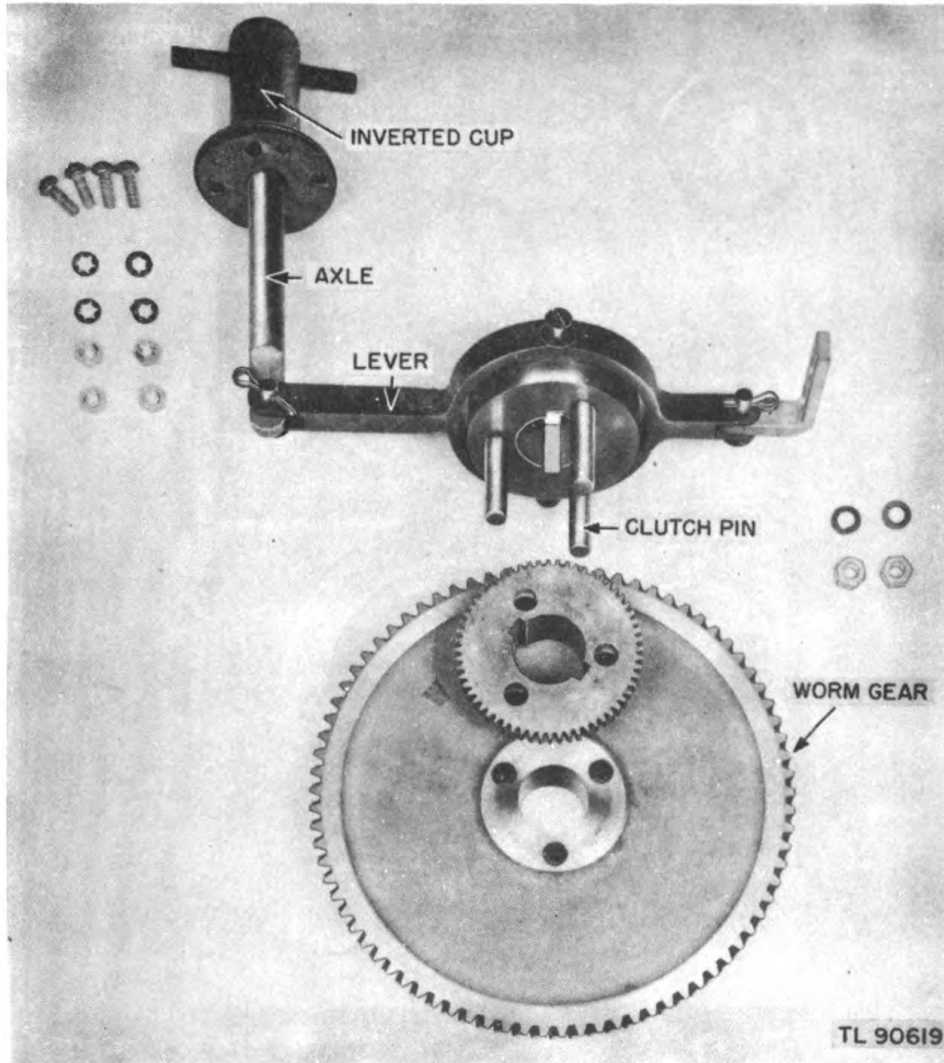

Figure 16. Clutch, exploded view.
16. CLUTCH. The floating clutch (fig. 16) is made up of a collar with three pins protruding downward into the special drive worm gear. The clutch is activated by a lever operated externally at the top of the antenna mount by means of an inverted cup sliding on a grooved axle. The clutch is placed in neutral when the cup is pulled upward. Twisting the cup locks the clutch in neutral.